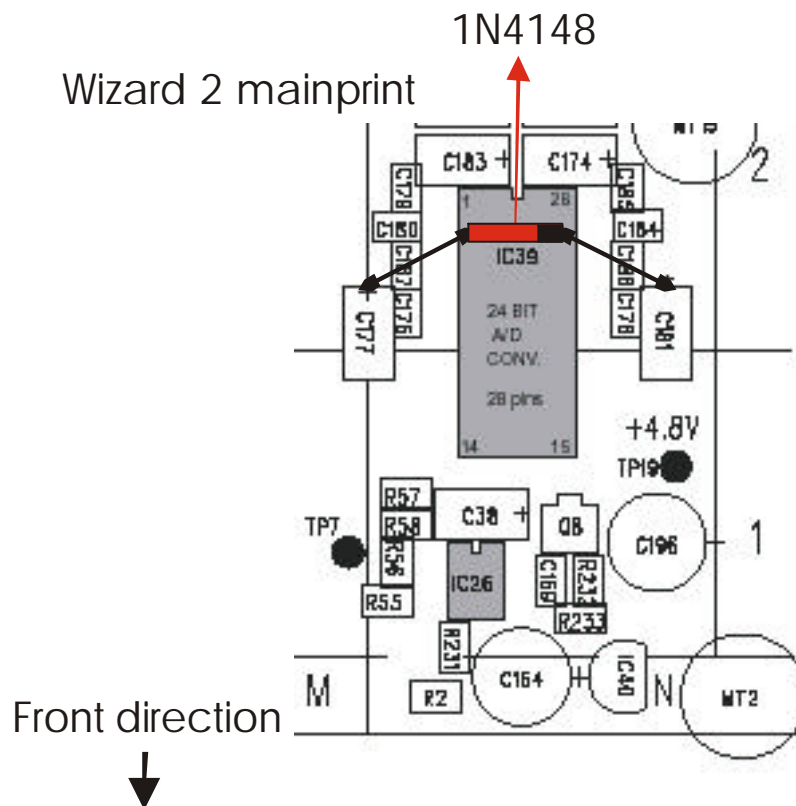

Fig.1.
2. Solder the leaded diode 1N4148 like shown here in fig.1.